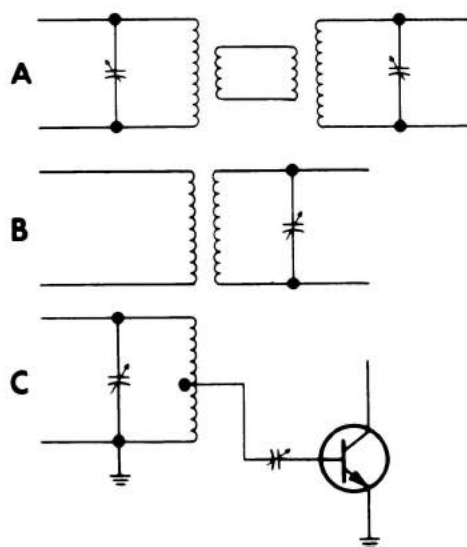

Figure 4-56
23. Identify the RF amplifier coupling circuits shown in Figure 4-56.
23. The RF amplifier coupling circuits shown in Figure 4-56 are: